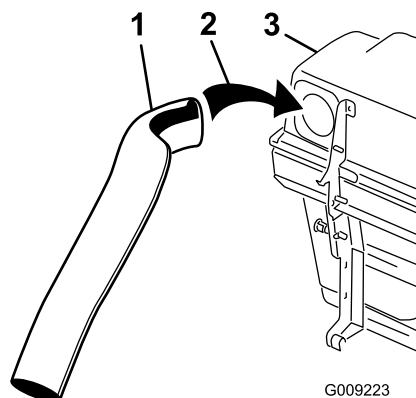

Figure 20
4. Install the upper tube into the bagger opening and pull it back out so that the rubber seal is protruding out (Figure 20).